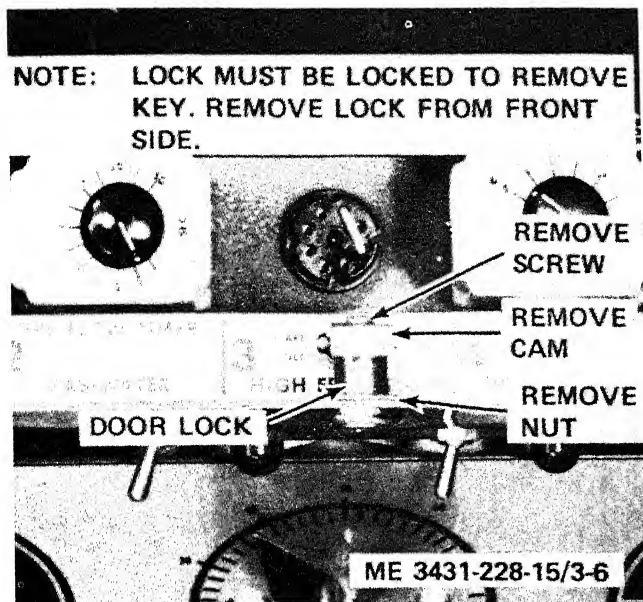

Figure 3-6. Door lock, removal and installation.
- (1) Unlock the panel door and open it.
- (2) Refer to figure 3-6 and remove the lock.
- (1) Refer to figure 3-6 and install the lock in the